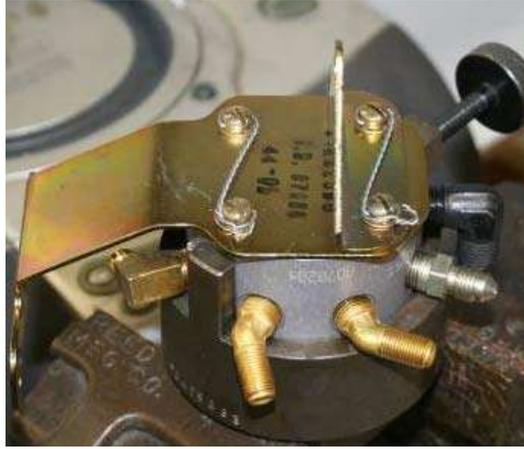

Figure 11
- (6) Remove the fuel manifold bracket and fuel manifold from the crankcase.
- (7) Remove the safety wire/cable from the screws that attach the fuel manifold to the bracket (Figure 11).
- (2) Safety wire/cable the screws on the bracket as shown in Figure 11.